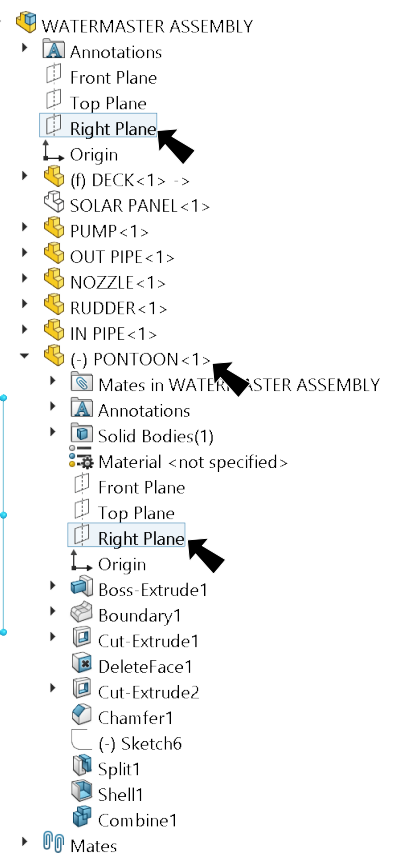

Fig. 44
Step 4. Expand the flyout Feature Manager design tree and **Right Plane** , expand **PONTOON** and click **Right Plane** , Fig. 44.